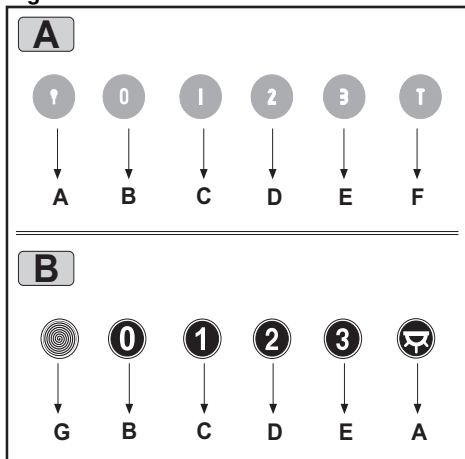

Fig.9
- **COMMANDS:**(Fig.9 B)MECHANICAL_ the key symbols are explained below: